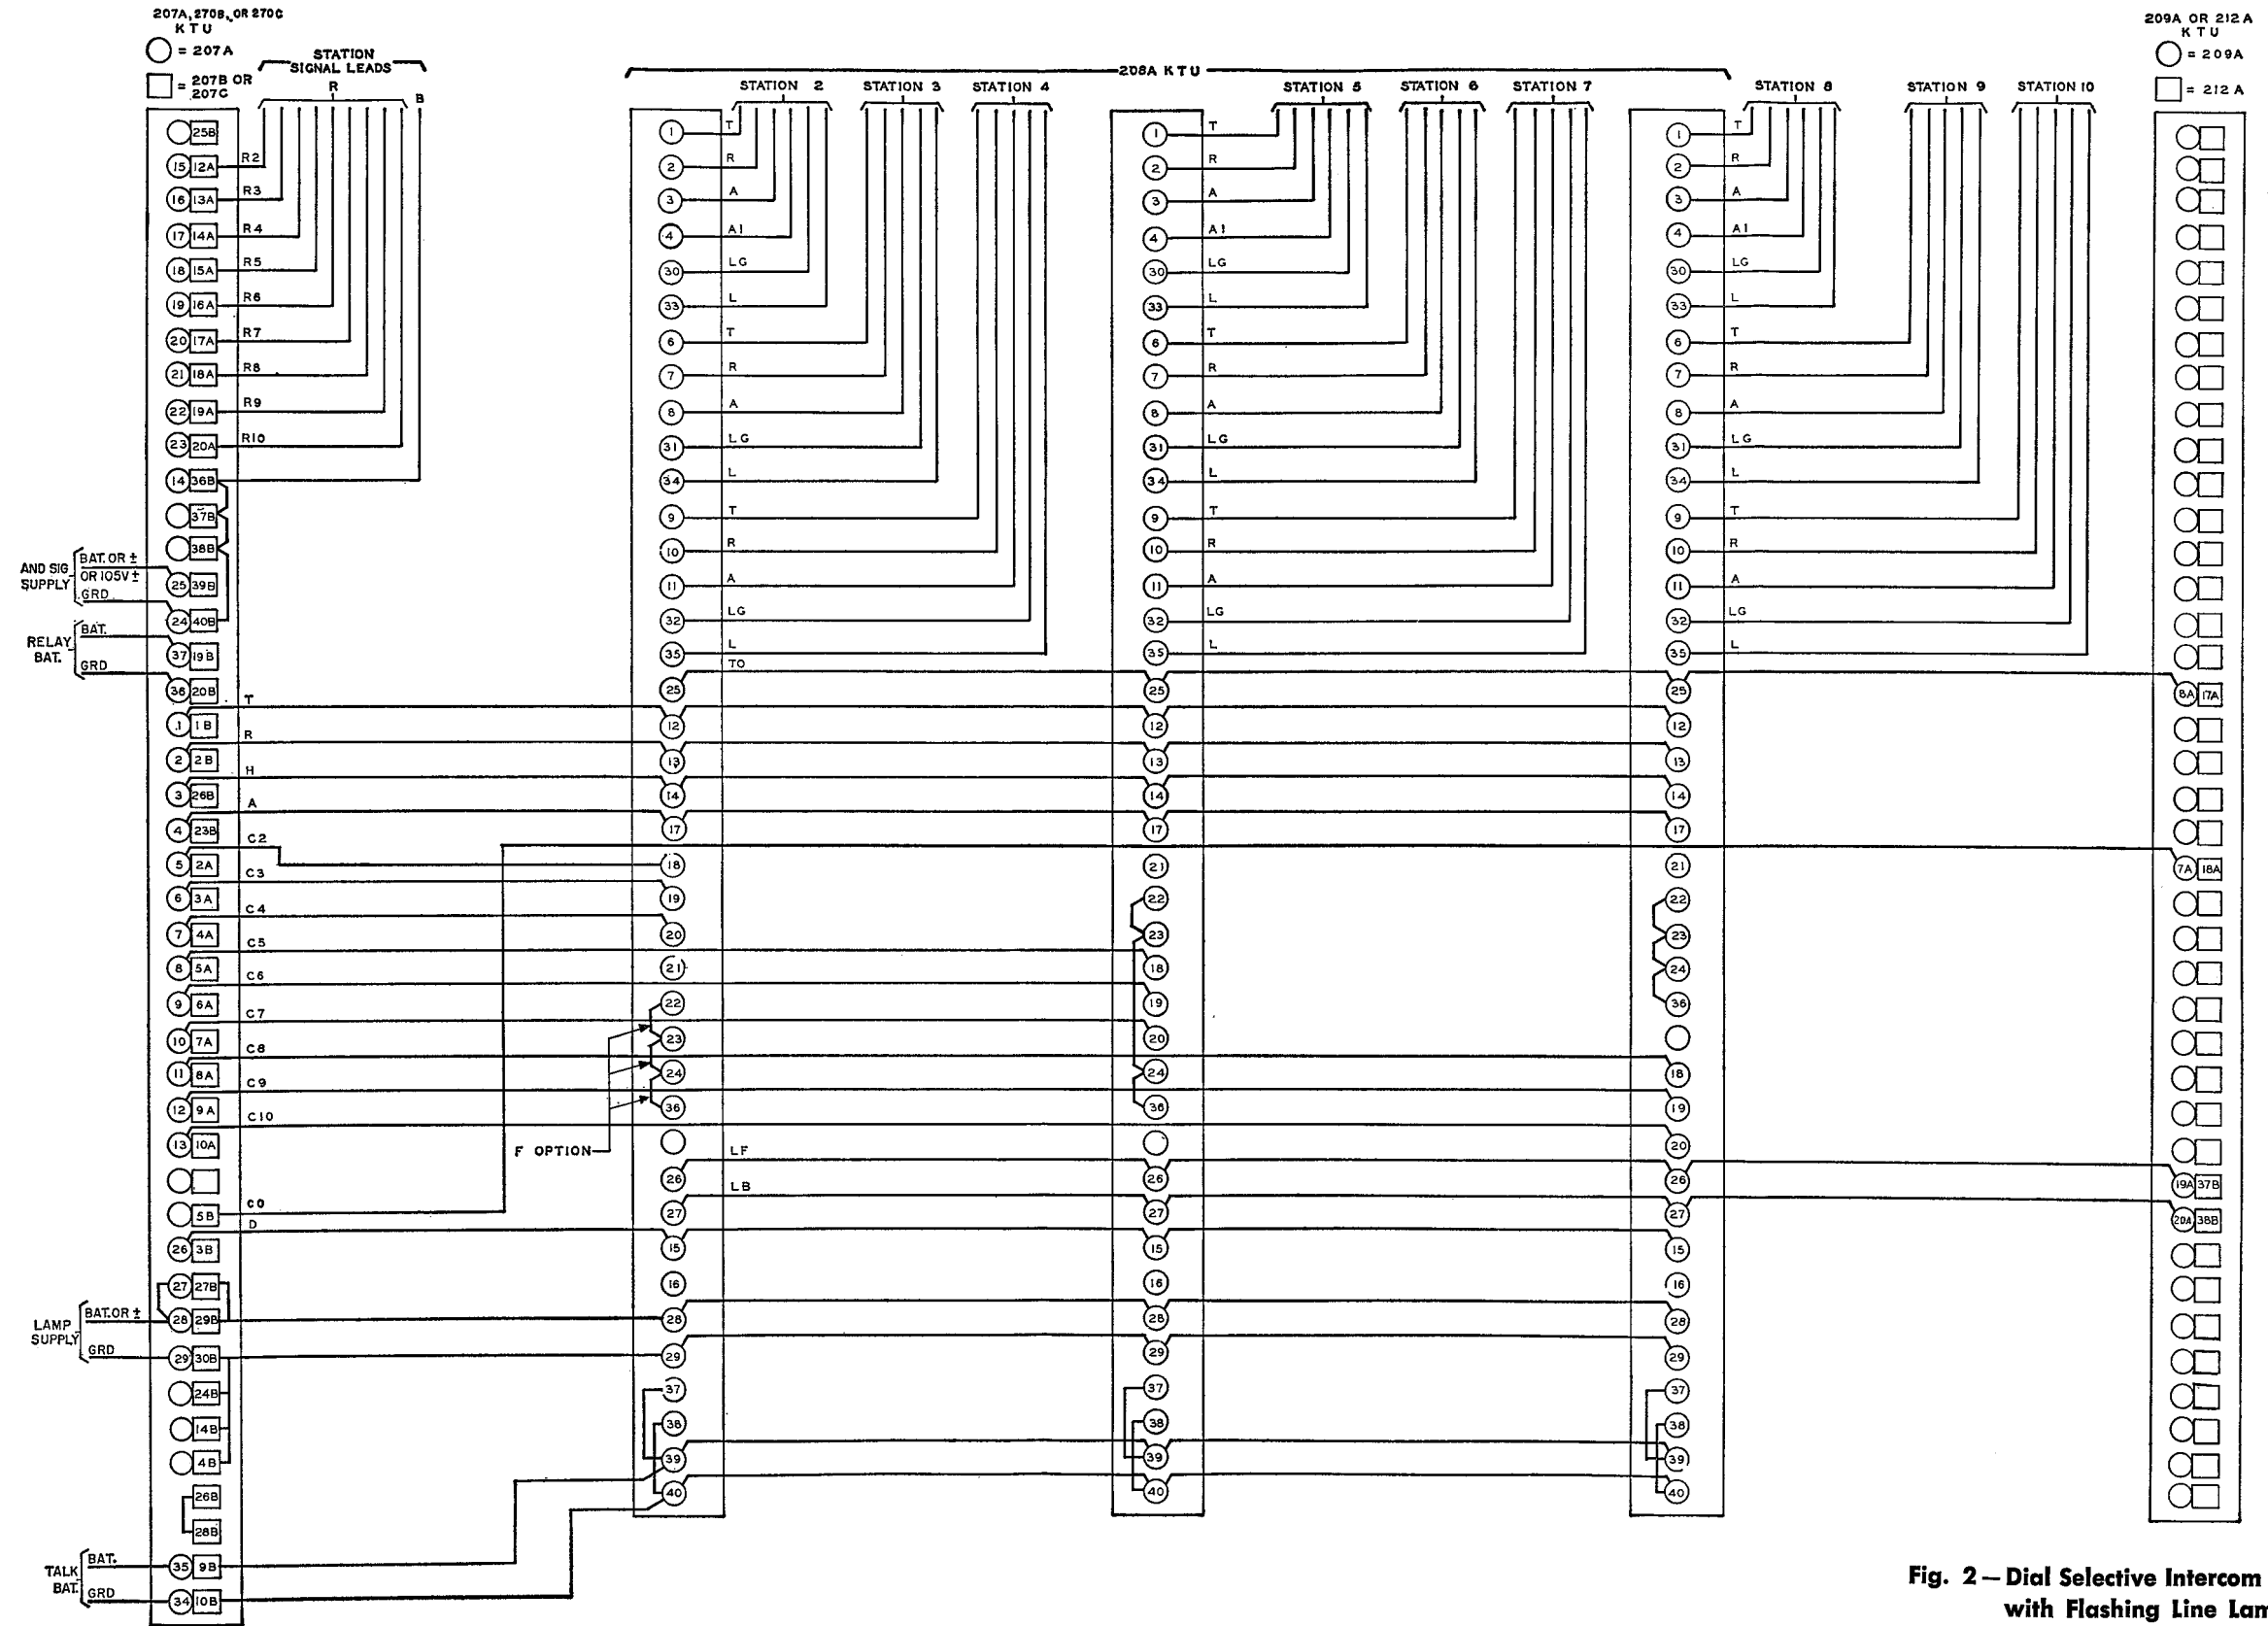

Fig. 2 — Dial Selective Intercom Line Circuit with Flashing Line Lamps — 207A, 207B, or 207C; 208A; and 209A or 212A Key Telephone Units
2.01 The connection drawing shows the necessary terminations to be made for power, cross connection straps within and between key telephone units, and termination of key or running cable from key telephone stations (see Fig. 2).